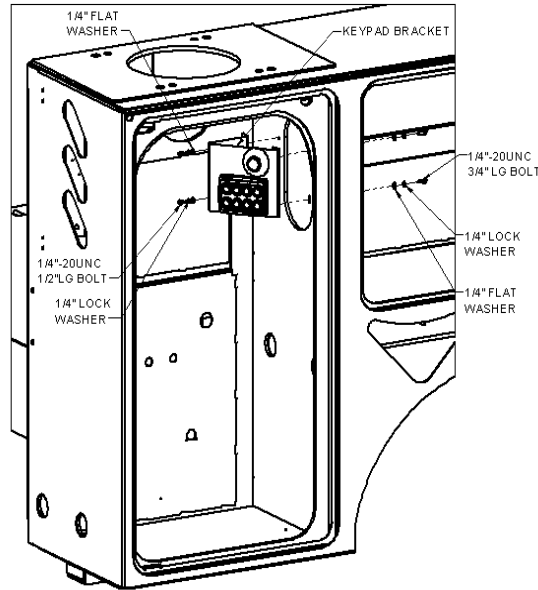

Figure 5 - Rear Compartment Keypad Mounting
16. Mount keypad/E-stop bracket into rear compartment. Reference Figure 5 for installation.